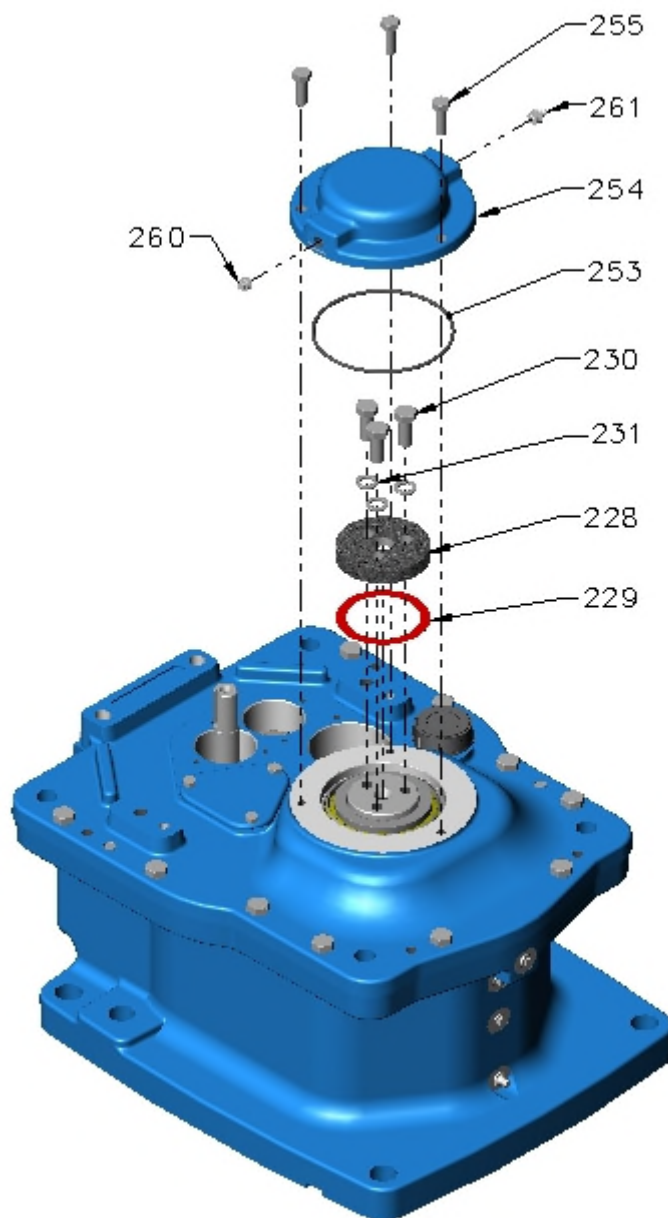

Figure 5 – Output Cap
E. At output shaft, remove the following items (refer Figure 5):